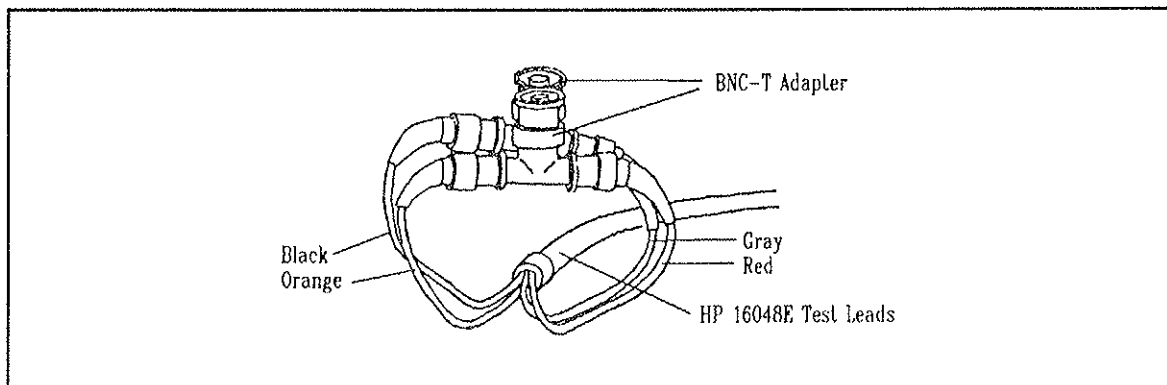

Figure 3-31. Test Leads Connections for OPEN Correction
9. Keep the BNC-T connectors open as shown in Figure 3-31, and select **MEAS OPEN** softkey. The OPEN correction starts immediately.